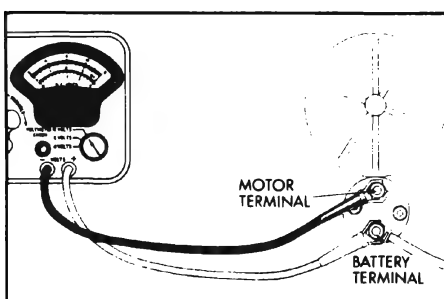

Figure 10-29—Solenoid Switch Contact Test Connections
6. With voltmeter switch turned to any scale above 12 volts, connect voltmeter negative (-) lead to the motor terminal of solenoid switch, and connect positive (+) lead to battery terminal of switch. See Figure 10-29.